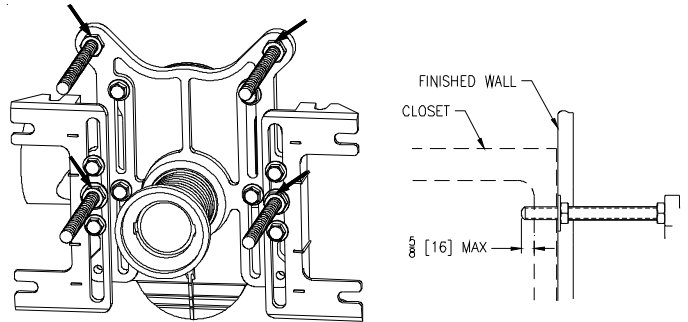

Fig. 13
13. Prep for finished wall. Fasten the (4) threaded rods from the finish bag into the faceplate, through the foot slots until each rod extends 5/8" past the closet bowl flange. Add included 5/8" washer to each lower rod, and secure nut on each of the four rods. See Fig. 13